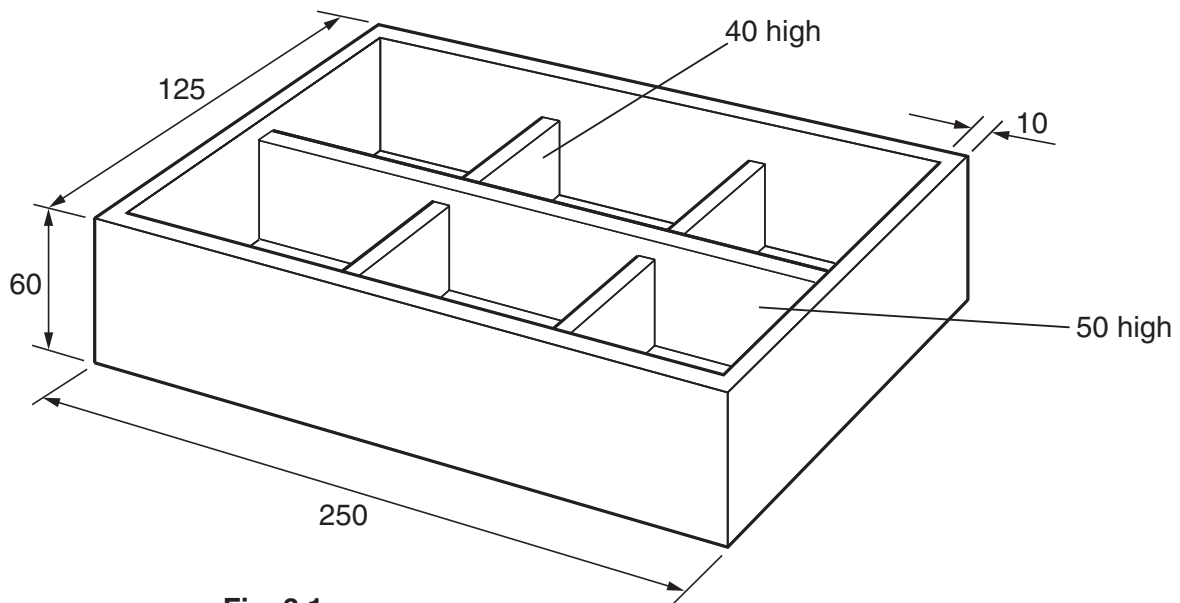

Fig. 3.1
- 9 Fig. 3.1 shows one of a set of storage boxes to be made in a school workshop. The box is to be used for storing screws of different sizes.